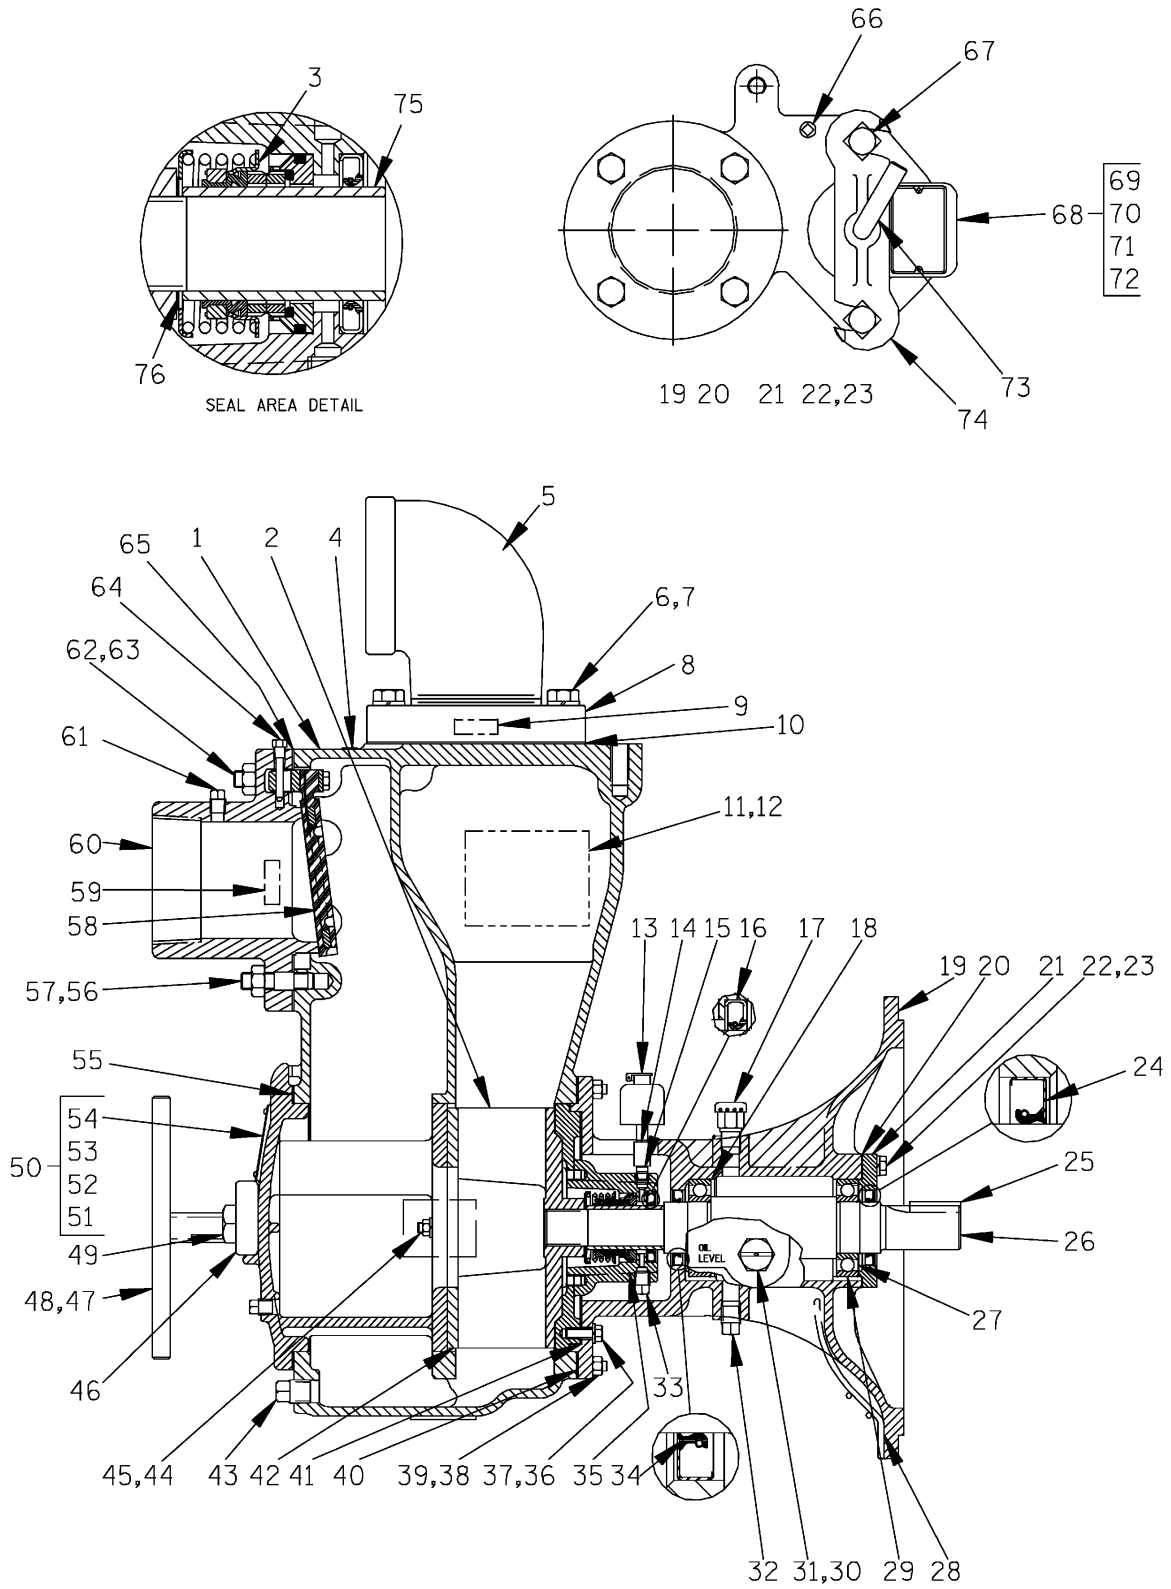

Figure 2. 14C20-(SAE 4/10) Pump End Assembly
(Figure 2)
If it is necessary to separate the intermediate and drive assemblies from the engine, support the intermediate using a hoist and sling, and remove the hardware (6 and 7) securing the intermediate to the engine bellhousing. Remove the intermediate guards (28, Figure 2), and separate the assemblies by pulling the intermediate straight away from the engine.
As the assemblies separate, the flexible portion of the coupling assembly (3) will remain on the shaft. To remove the coupling from the shaft, unscrew the two allen head setscrews from the bushing (2). Screw one of the setscrews into the puller hole on the circumference of the bushing. As the coupling and bushing separate, remove the bushing, and slide the coupling off the shaft. Remove the shaft key (26, Figure 2).
Position the inboard oil seal (34) in the intermediate housing bore with the lip positioned as shown in Figure 2. Press the oil seal into the housing until the face is **just flush** with the machined surface on the housing.